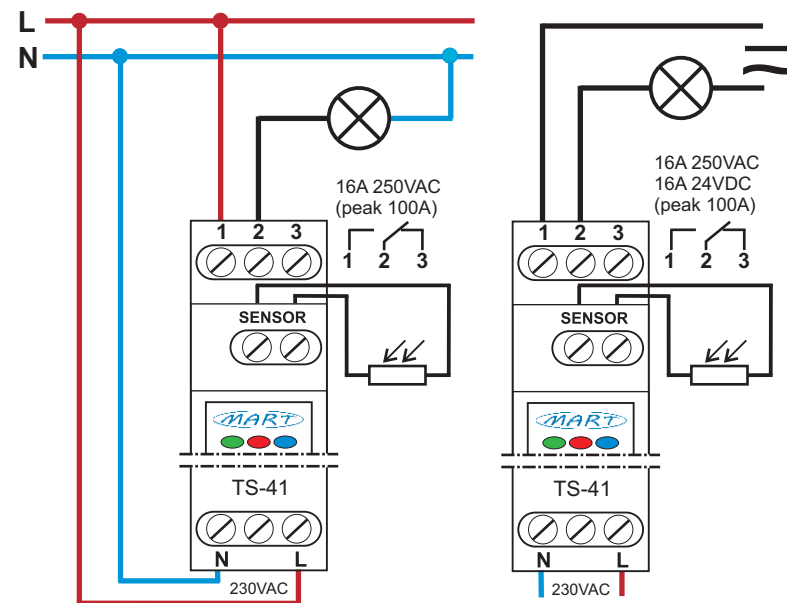

Fig. 2.: Connection diagrams for the TS-41-3.3 TWILIGHT SWITCH automatic device.
3. Connect the wires in accordance with the diagram (fig. 2)